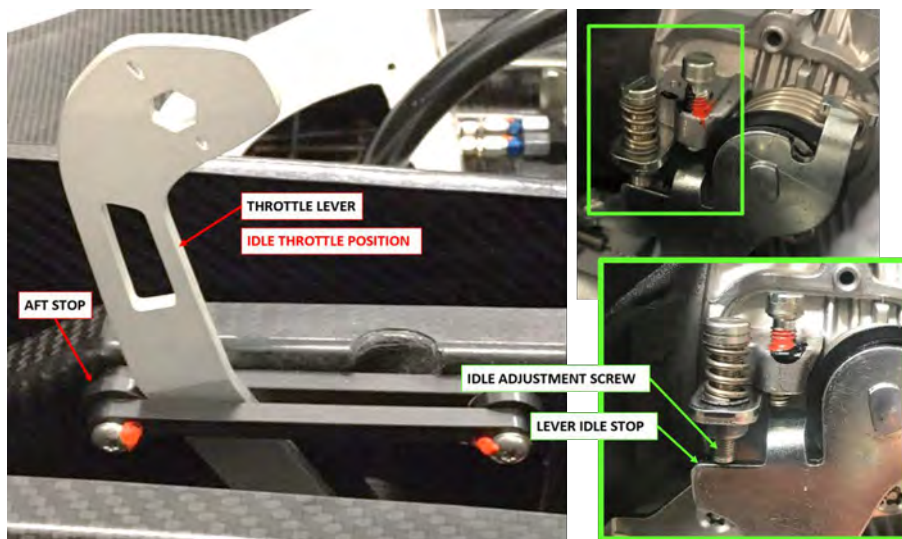

FIGURE 17-22
- In cockpit, retract throttle handle to contact AFT stop (idle position). At engine, ensure lever idle stop contacts idle adjustment screw at the same time or just before the throttle handle contacts the aft stop. (See Figure 17-22.)